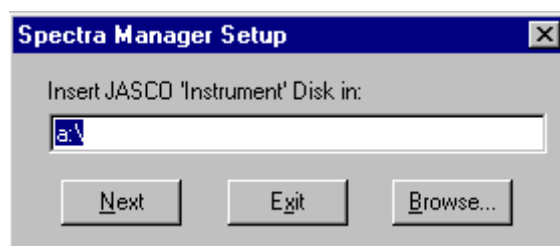

Figure 10.11 [Spectra Manager] Setup dialog box
- (3) Click the <Yes> button. The dialog box shown in Fig. 10.11 appears.